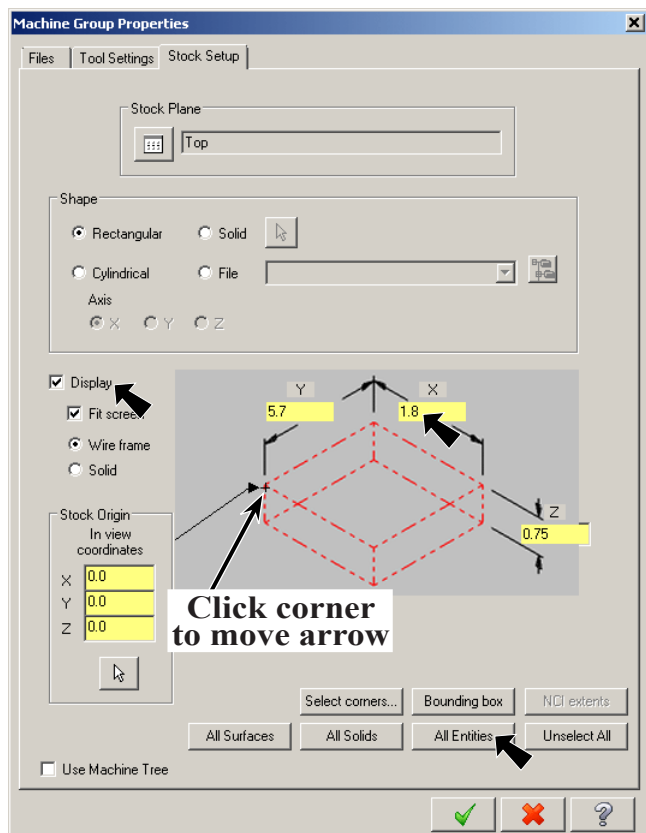

Fig. 2
Step 6. Click **left front top corner** of the stock to move the origin, **Fig. 2**. After you click corner the arrow will point to corner.
Step 7. Click **All Entities** in Stock Setup dialog box, **Fig. 2**.
Step 8. Set **X dimension 1.8**, **Fig. 2**.
Step 9. Confirm **Display** check box is checked, **Fig. 2**.